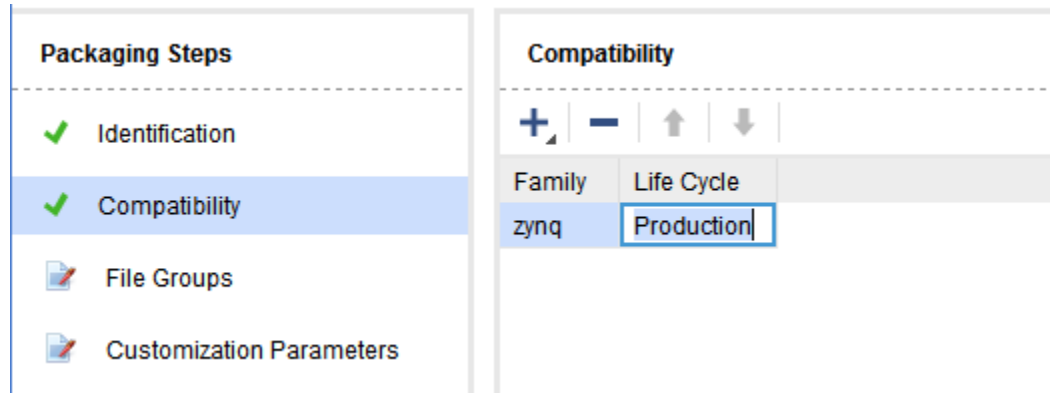

Figure 28 - IP Compatibility
- Switch to the next setting, *Compatibility*. Here you can set the compatible device families. Zynq is included as that was the target part when we created this IP. More families can be added by right-clicking in the box. Change the *Life Cycle* to **Production** by typing in the field shown in figure 28, then press **Enter**.